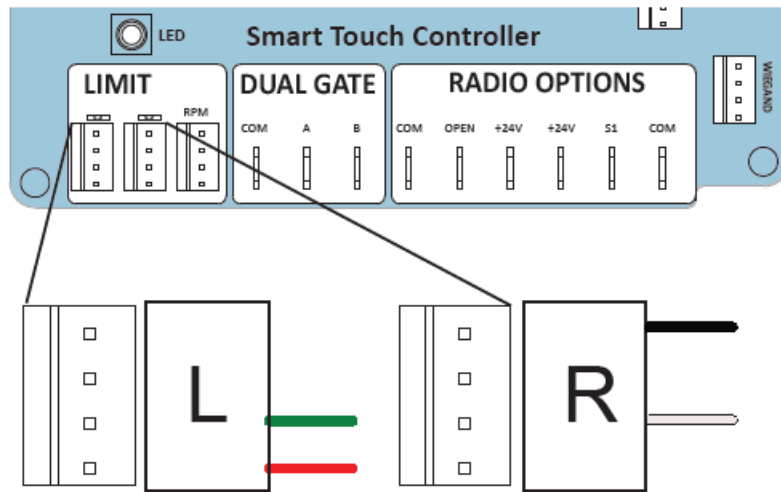

Figure 8. Connect the Limit Sensor(s)
6. Disconnect the limit switches from the SmartTouch Controller (Figure 8).
14. Connect the limit sensor plugs to the limit terminals on the STC board (Figure 8).